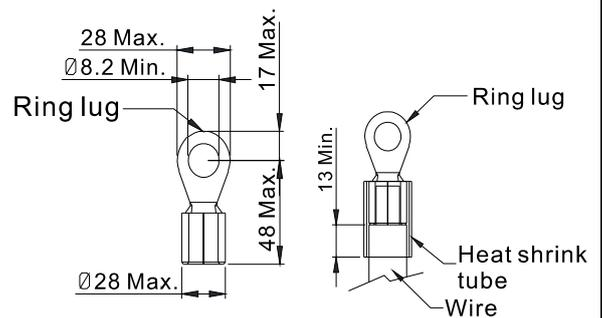

Figure 1
3. Use specified ring lug for terminal wiring. See Figure 1 and Figure 2 for ring lug specifications. For other types of wiring, use the wires that comply with local regulations.